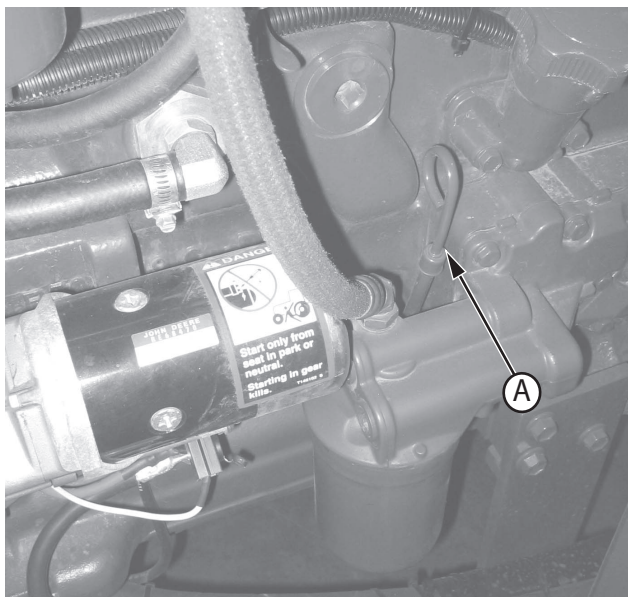

Figure 56. Engine Oil Dip Stick
1. Before starting the engine check the engine oil level (see Figure 56). Do not operate the engine when oil level is below the low mark on dipstick (A).